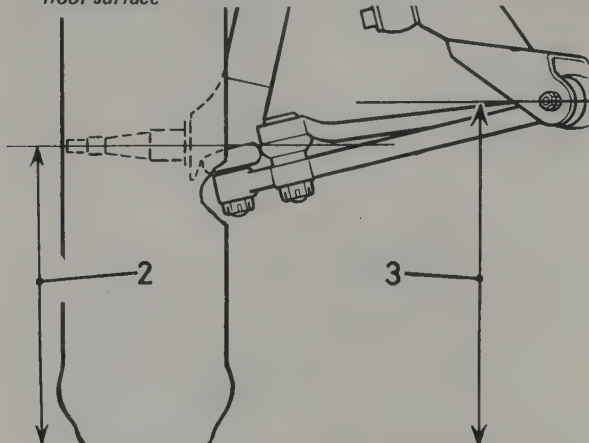

Fig. 11.14. Front suspension height setting diagram (3500 and 3500 S)
- 3 The dimensions given in Figs. 11.14 and 11.15 are based upon a hub centre to tyre tread surface dimension (2) (wheel radius) of 11.593 in (294.0 mm). This should be the case with a tyre in good condition. Any variation in this dimension must be taken into account when carrying out the following procedure.
- 5 Subtract the standard tyre radius (2) from the dimension "3" adjusting if necessary where the tyre radius was not as specified in paragraph 3.
- 9 Subtract the standard tyre radius (2) from the dimension "3" adjusting if necessary where the tyre radius was not as specified in paragraph 3.